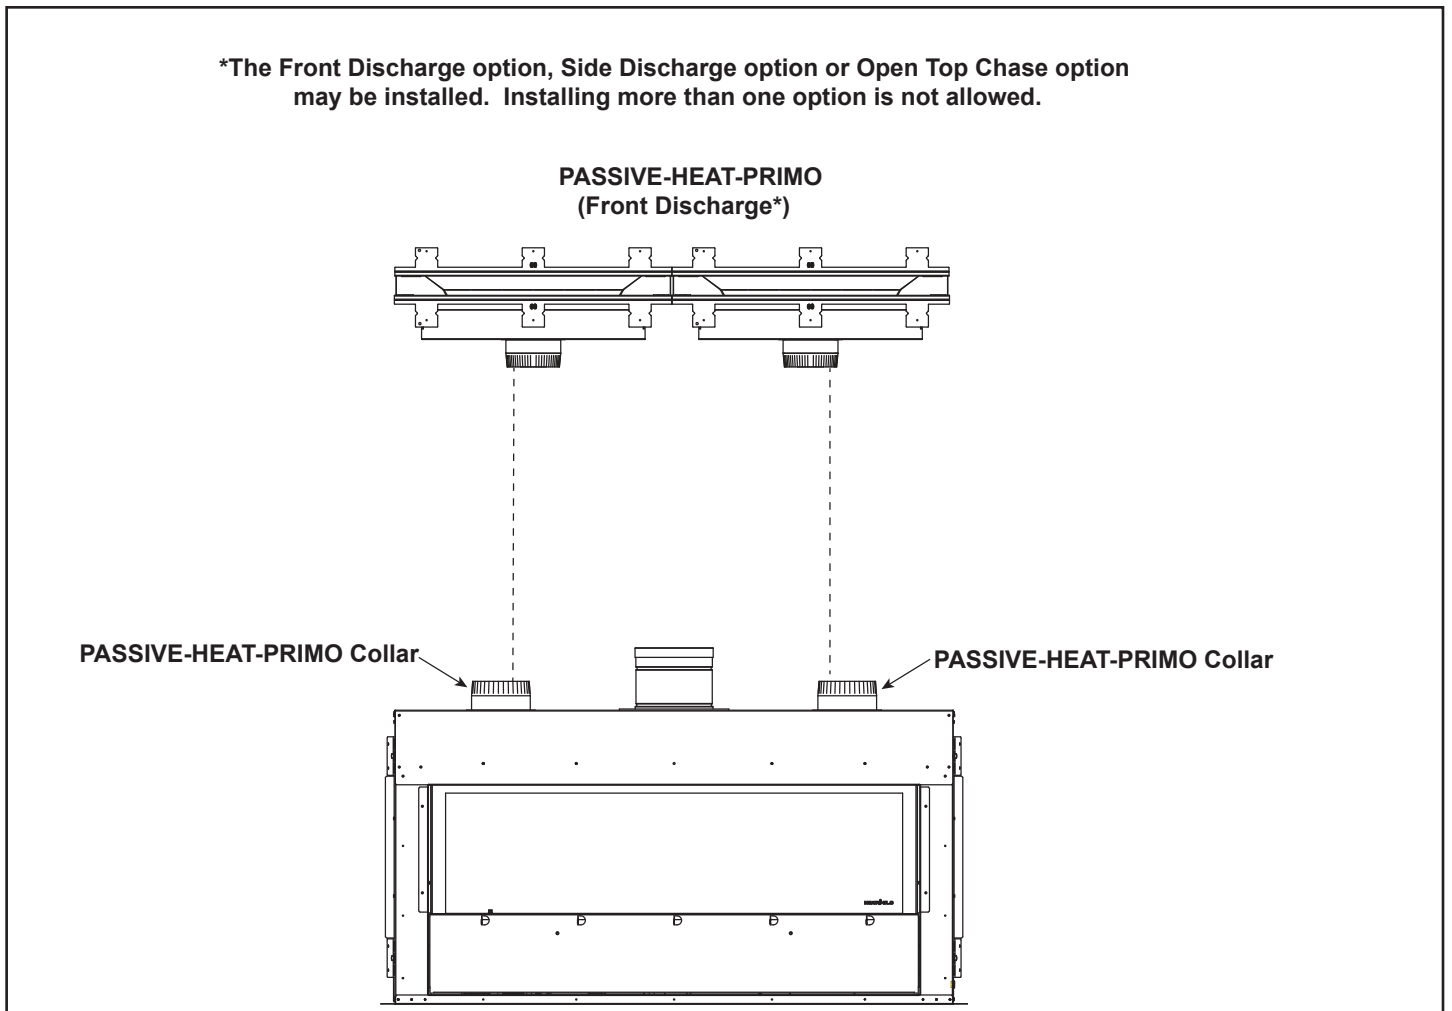

Figure 6.1 PRIMO Passive Heat Front Discharge Configuration / Remove PRIMO Passive Heat Seal Plates
1. Remove the two outer passive heat seal plates. See Figure 6.1 and 6.2. Install collars over the openings using hurricane screws provided in the kit.